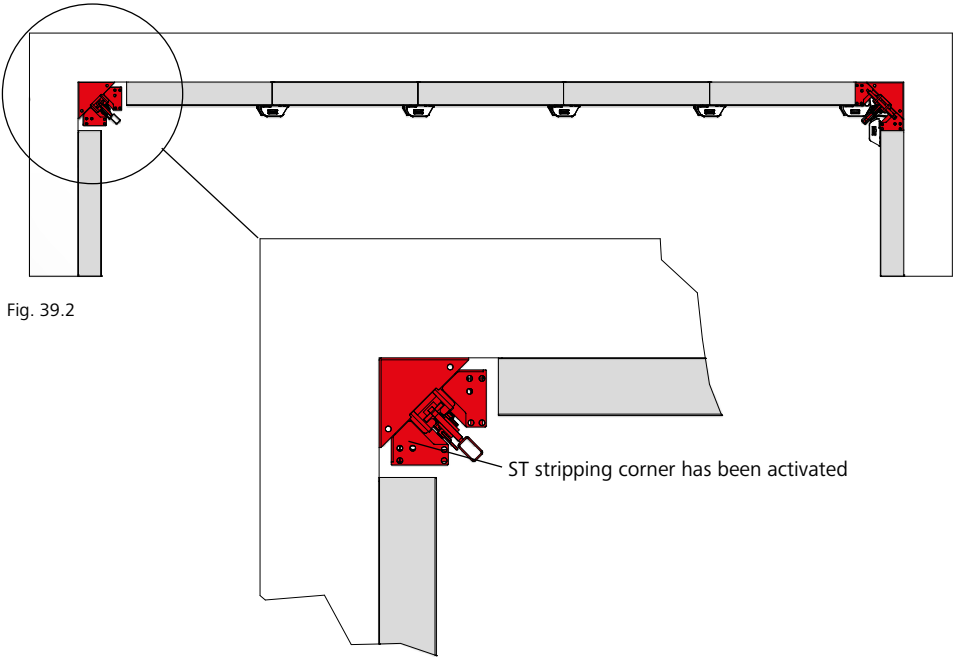

Fig. 39.2
- 2. Activate the ST stripping corner (Fig. 39.2 and pages ST/AS-36 to -38).